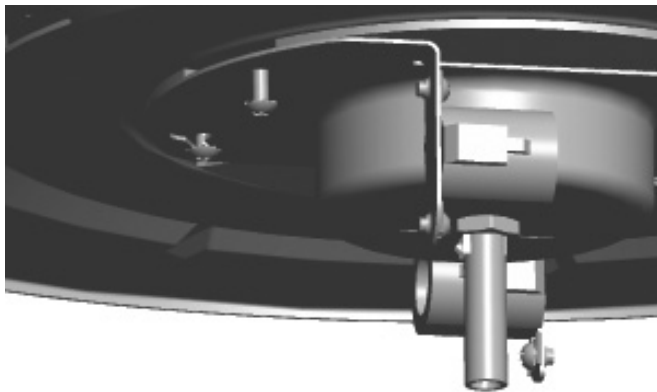

FIGURE 6.
Step 10. Install the remaining screw into the Glass Fitter. Figure 6.